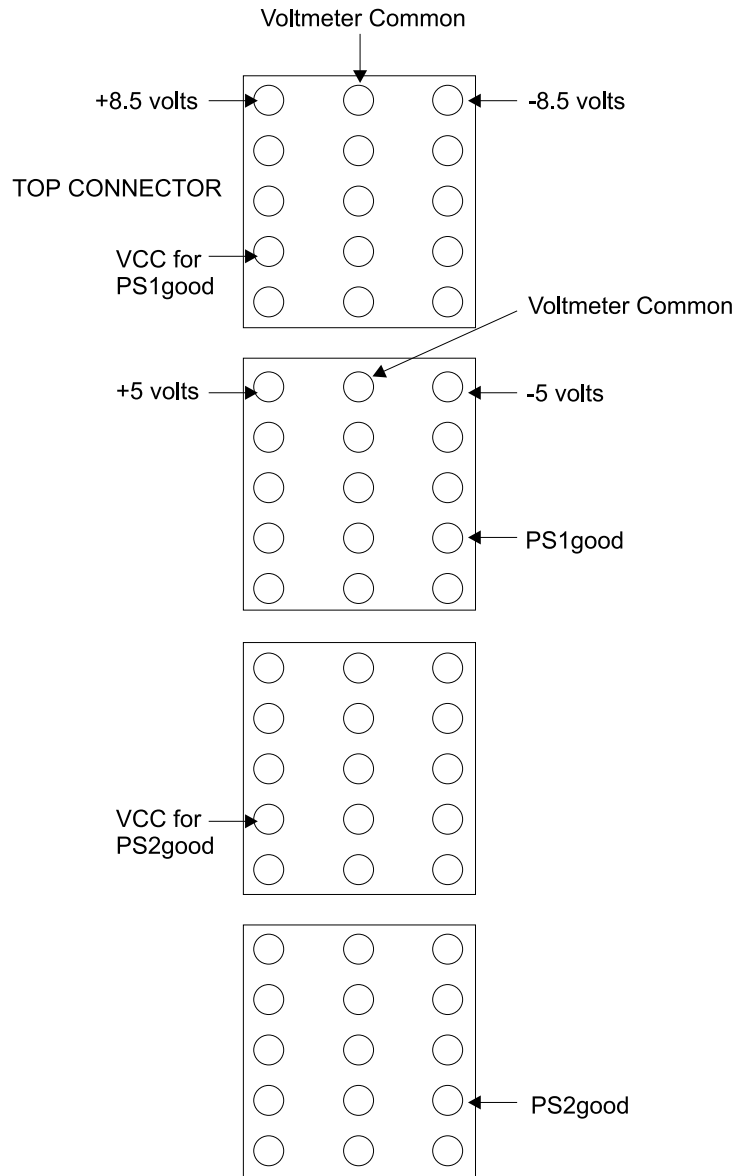

Figure 3. Backplane Connections Viewed from the Front
b Using a voltmeter, measure the dc supply voltages to the backplane (see Figure 3).
6 Check the dc voltages at the backplane using Figure 3 on page 13.
- 3** Check the voltages at the backplane (see Figure 3 on page 13).
- If the voltages are not correct, check the dc voltages at the backplane using Figure 3 on page 13.